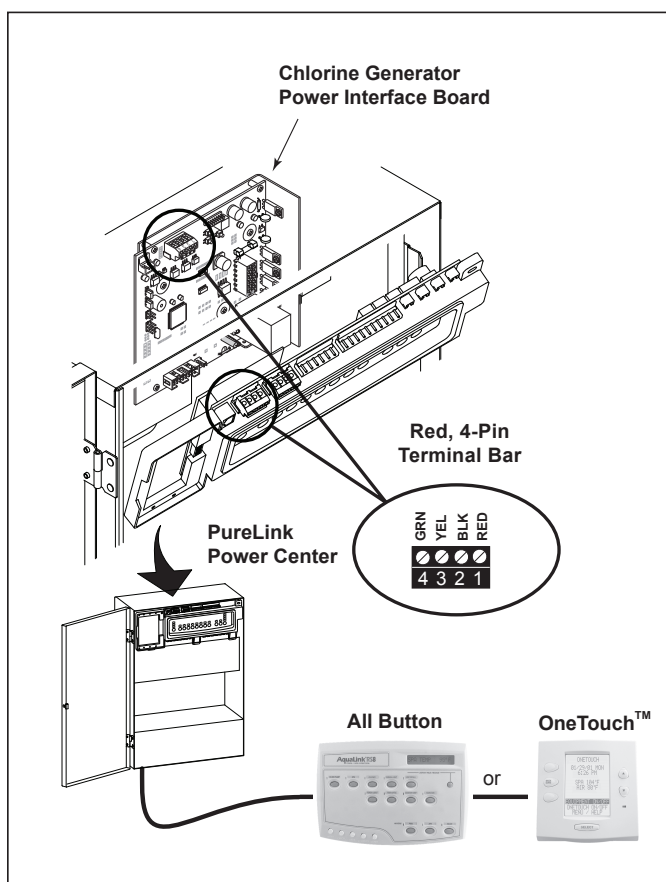

Figure 16a. Wiring a PureLink Control System Network
The chlorine generator electronics in the PureLink power center and the AquaLink RS controller require a four (4) wire connection to communicate. Any outdoor rated four (4) conductor cable, minimum 22 AWG, can be used. Locate the appropriate screw terminals on the circuit board according to Figures 16a and 16b. Wire the chlorine generator power interface board from the red 4-pin terminal bar to the AquaLink RS red 4-pin terminal bar. See Figure 16a.